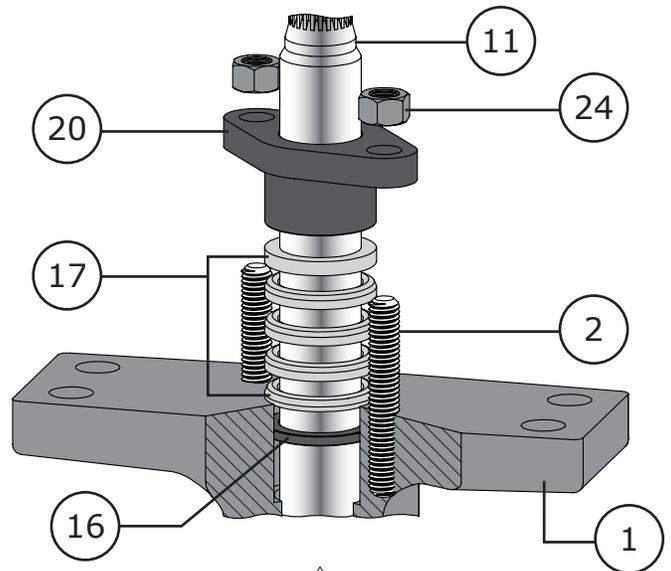

Figure 8 Standard Packing Removal
- 2 **For Standard Packing:** Remove the packing follower (Key 20). Refer to Figure 8. **NOTE:** 16 Inch valves utilize a 2 piece packing follower (Key 20) and packing flange (Key 20A), refer to Figure 75.
- 3 Using a mechanics pick set, carefully remove the packing box parts: anti-extrusion ring (Key 19), v-ring packing rings (Key 17), anti-extrusion rope (Key 18), graphite rings (Key 17A), and packing box ring (Key 16). Refer to Figures 8 & 9. **NOTE:** It may be possible to use a shaped wire with a sharp end to pierce the PTFE v-ring packing rings (Key 17) and pull them out. Refer to Figure 8.